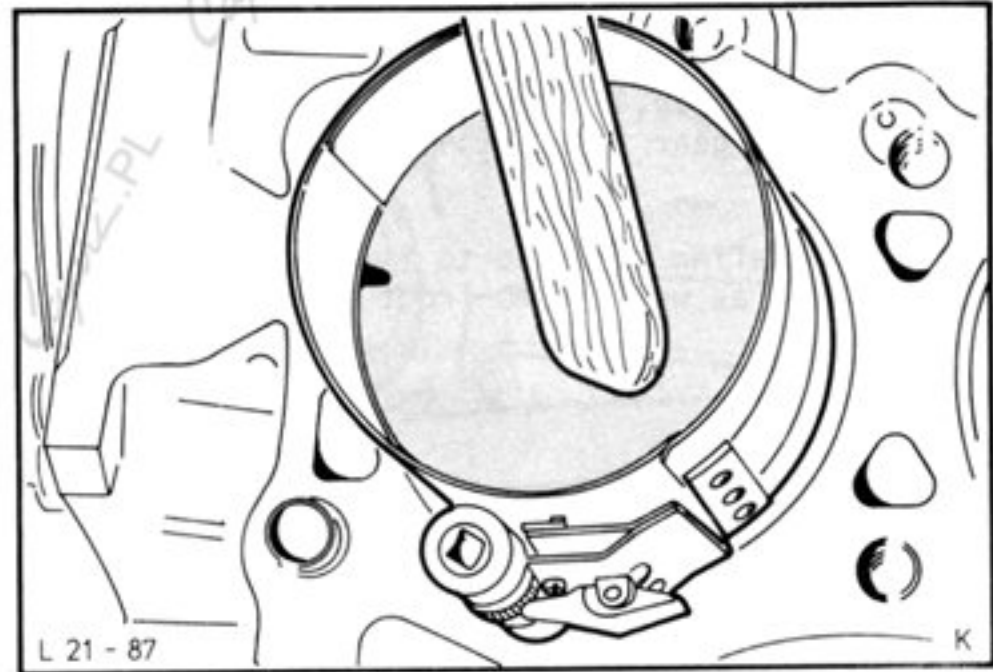

Fig.62. Fit piston ring using ring compressor.
53. Compress piston rings with a standard tool (ring compressor). Press piston into cylinder using a hammer handle, guiding connecting rod onto big end journal, Fig.62.